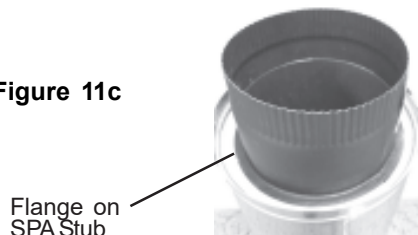

Figure 11c
2. Ensure the SPA Stub flange is snug with plastic retainer (Figure 11c).